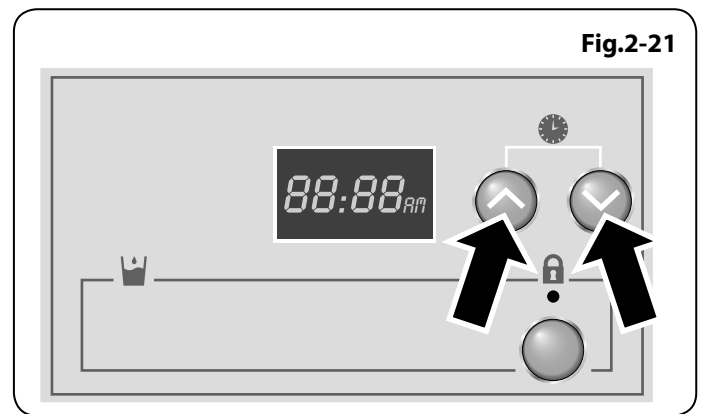

Fig.2-21
Press and hold both the '^' button and 'v' button for three seconds (**Fig.2-21**). After the buzzer sounds the digital display will flicker and the clock can now be set. Press the '^' button to adjust the hours, and the 'v' button to adjust the minutes.
2. Press and hold both the '⤴' button and '⤵' button (**Fig.2-21**) until a bleep sound is heard.